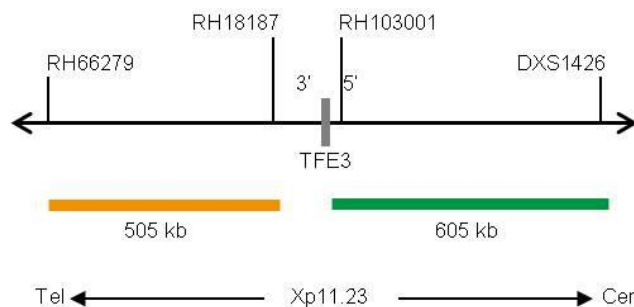

Fig. 1: SPEC TFE3 Probe map (not to scale)
- ZyOrange (excitation 547 nm/emission 572 nm) labeled polynucleotides (~4.5 ng/μl), which target sequences mapping in Xp11.23\* (chrX:48,287,169-48,792,674) distal to the TFE3 breakpoint region (see Fig. 1).
- ZyGreen (excitation 503 nm/emission 528 nm) labeled polynucleotides (~10 ng/μl), which target sequences mapping in Xp11.23\* (chrX:48,906,685-49,509,699) proximal to the TFE3 breakpoint region (see Fig. 1).